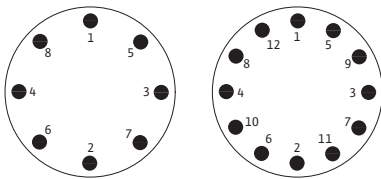

Fig. 41: Screw tightening sequence
- Observe the sequence (fig. 41).